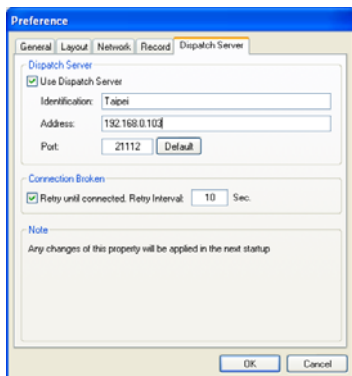

Figure 2-3
3. If you have arranged Center V2 servers and subscribers into groups in Dispatch Server, click the **Network** tab in Figure 2-3 and check the **Location Name** of the Center V2. The location name should match the server name created on Dispatch Server.